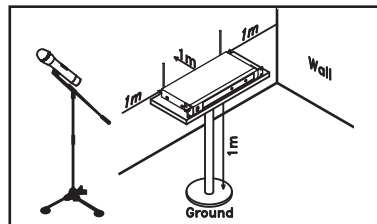

Fig. 5
- (B) For ideal reception and performance, install the receiver at least 1 meter (3 feet) above the ground and away from EMI / RFI “noise” sources, Fig. 5.